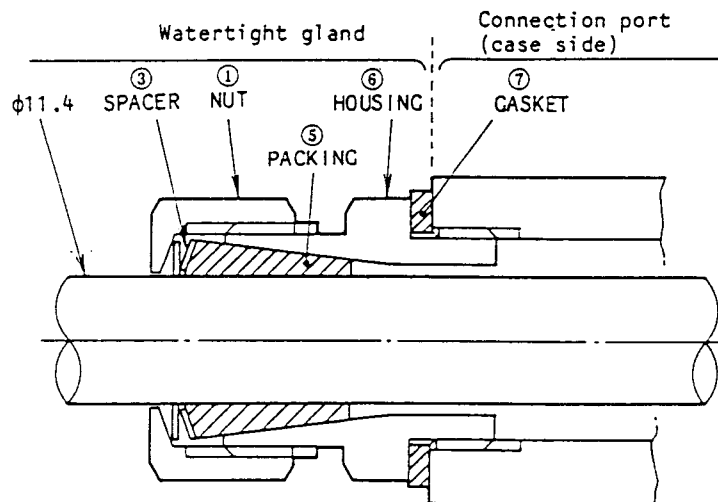

Figure 5.17. Structure of Watertight Gland
To use the converter as a watertight unit, use watertight gland kits for the cable inlet/outlet. An exploded view of the watertight gland kit is shown in Figure 5.18. Pass the parts onto the cable in the order shown in Figure 5.17 and then tighten the gland. When Yamatake-Honeywell's standard cable is used, packing ④ is not required and you should eliminate it.